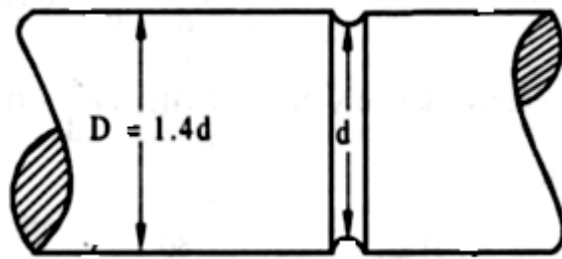

Fig.Q.1A
- 1A.** A grooved steel shaft as shown in **Fig.Q.1A** is to transmit 5 kW at 120 rpm. **(05)**